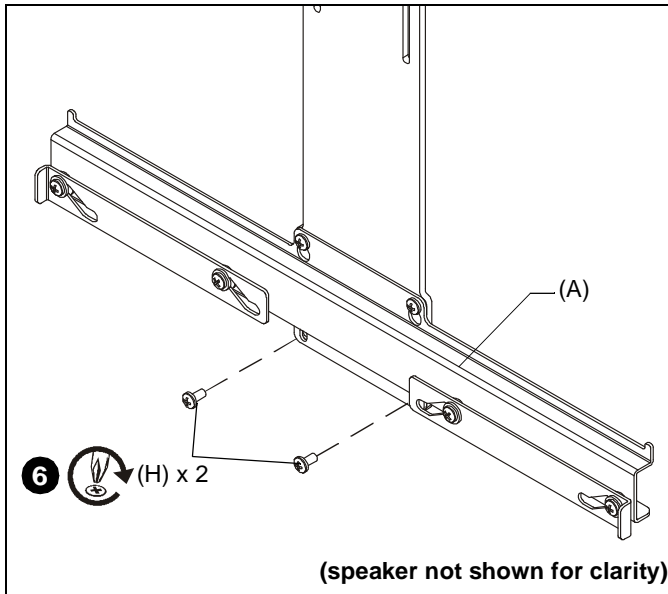

Figure 11
- Fasten two 10-24 x 3/8" Phillips pan head screws (H) into the lower holes of center assembly (A). (See Figure 11)